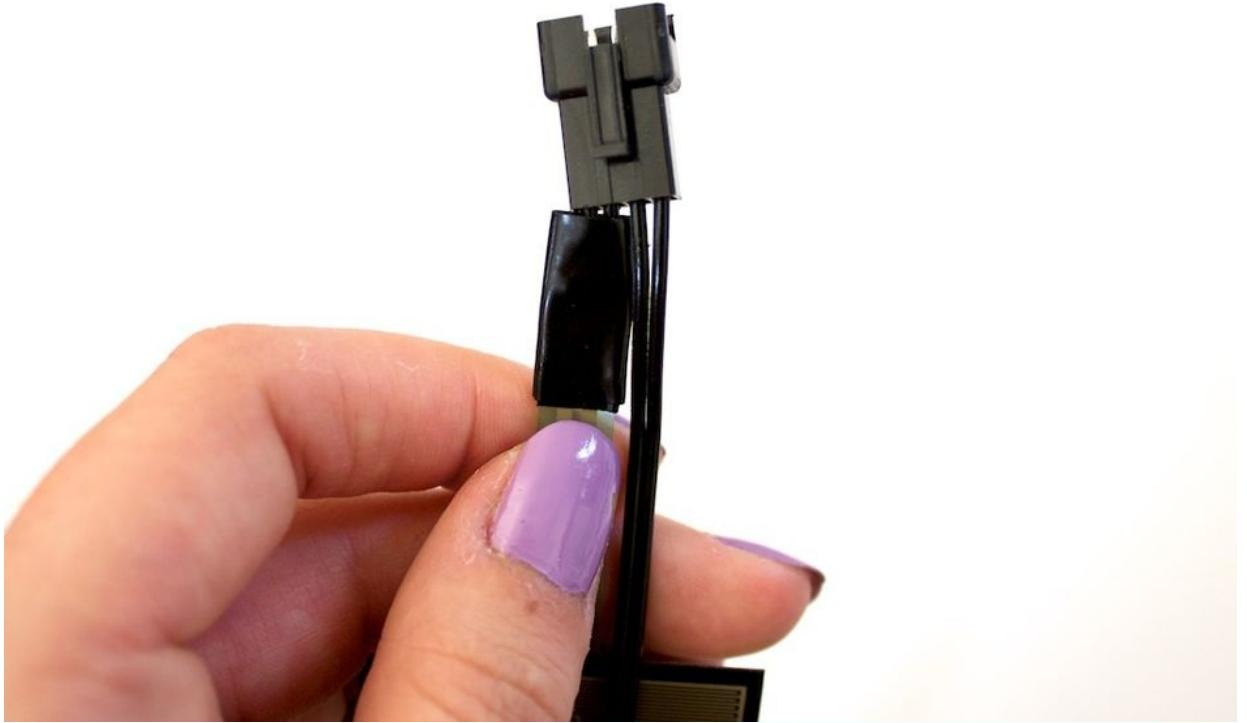

Figure 14-8. Electrical tape insulates and cushions force applied
3. Wrap each individual connection with electrical tape to help protect the soldered connections, as shown in Figure 14-8.